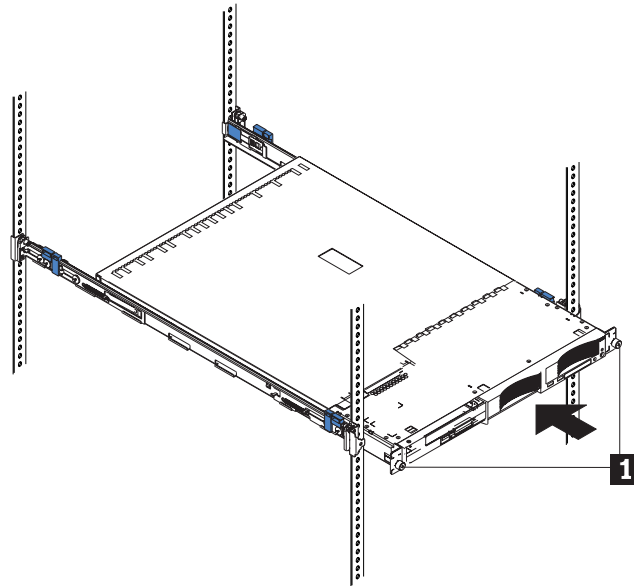

Figure 27. Installing the SAN Volume Controller into a rack
2. Fully tighten the two captive thumbscrews **1**. See Figure 27.